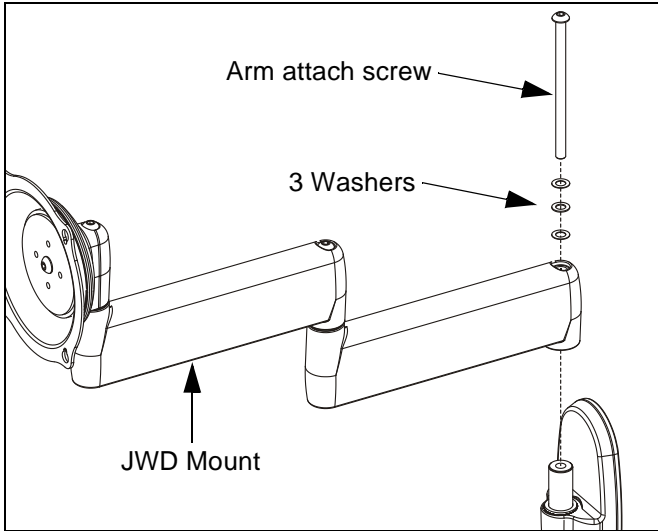

Figure 7: Remove JWD Mount Arm Assembly
5. Using key (250), remove arm attach screw and three washers from JWD mount (See Figure 7). Place mount assembly on protective surface.